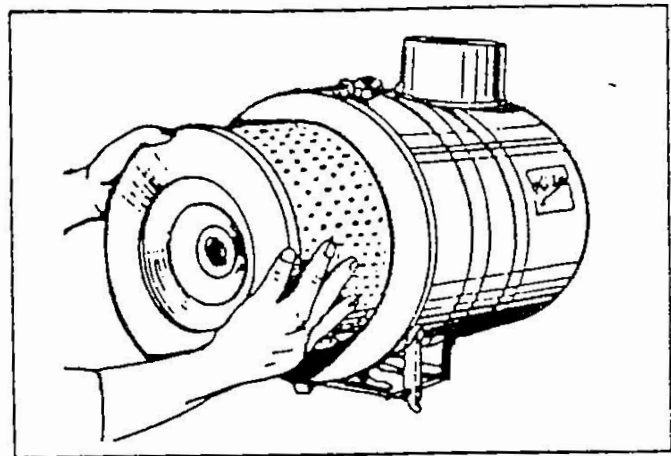

Fig.3.21
d) To remove the filter insert, first unclamp the end cover and take out the filter element (Fig.3-21).